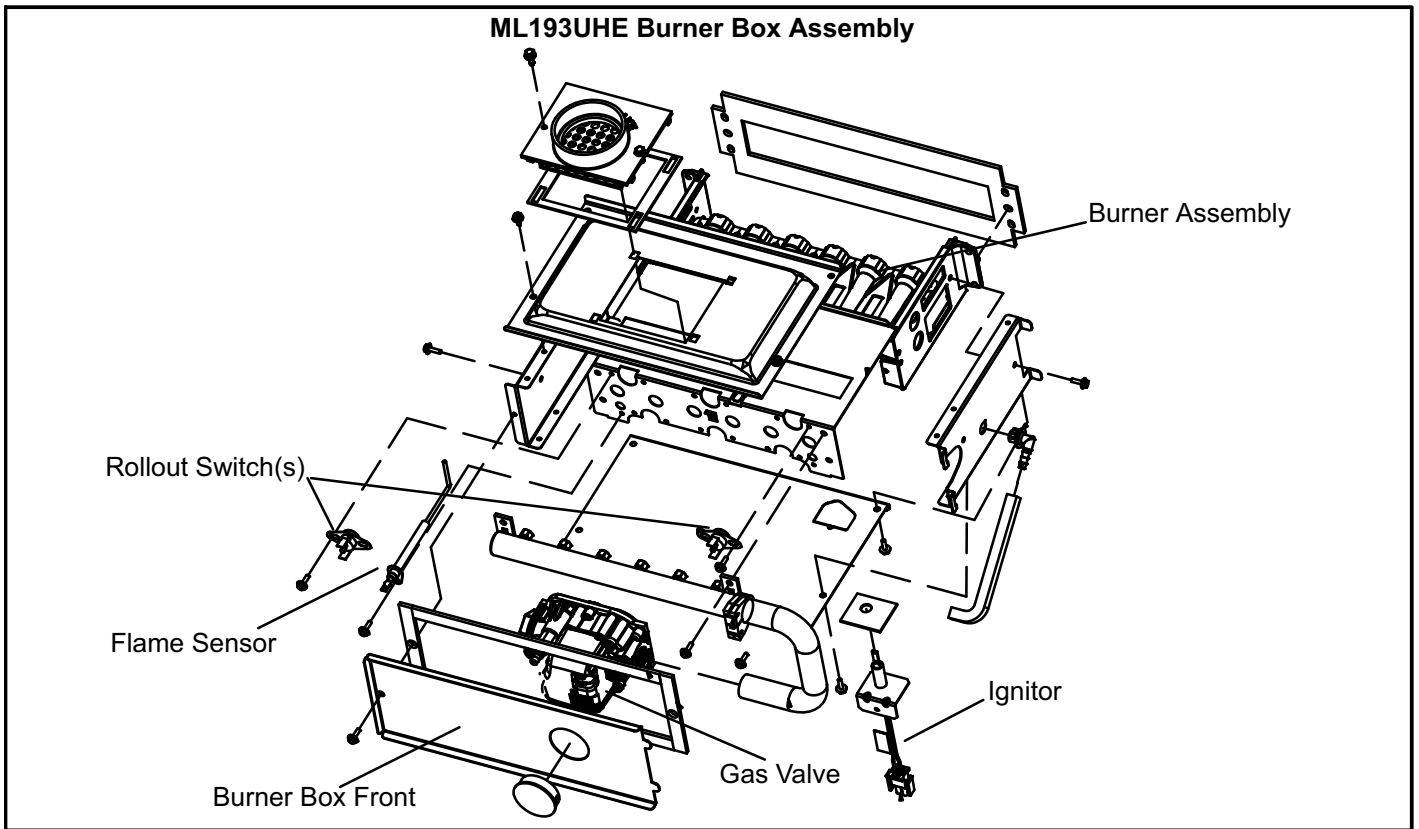

FIGURE 6
1. Flame Rollout Switches (Figure 6)
5. Flame Sensor (Figure 6)
6. Ignitor (Figure 6)